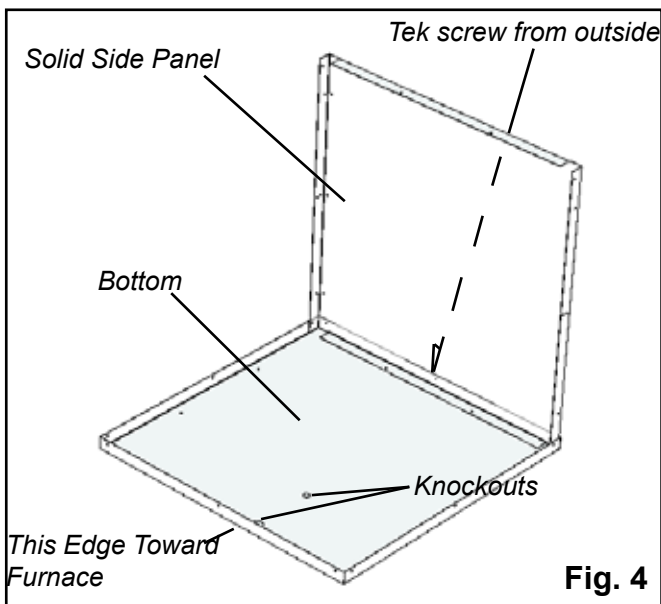

Fig. 4
1. Place the bottom on the floor. The edge closest to the knockouts will be the edge towards the furnace. See Fig. 4.
2. Place the desired vertical panel inside the bottom tray and hold into place with one Tek screw in the bottom middle hole. (solid panel shown) See Fig. 4.